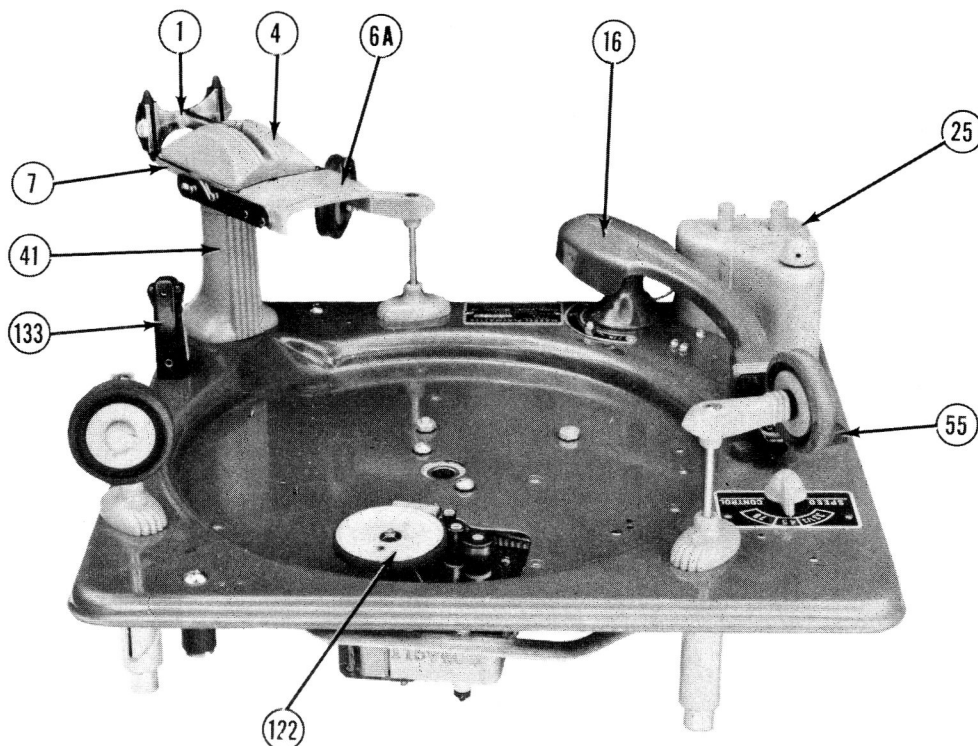

FIGURE 3
1. Before loading records, be sure that the tone arm is resting on the needle rest and that all three wheels that support the records are in the correct non-playing position as shown in Figure 3. If the three wheels are not in the correct non-playing position, turn each one to its correct position (you will hear a click when each wheel is positioned).
2. Rotate the record support in either direction until the support snaps into position to the size of records to be played—10" or 12"—and fold back the record stabilizer (1) away from the center post. When loading 7" records, raise the 7" push-off shelf (6A), then slide it back to lock into position. The center hole inserts must first be snapped into 45 RPM records.